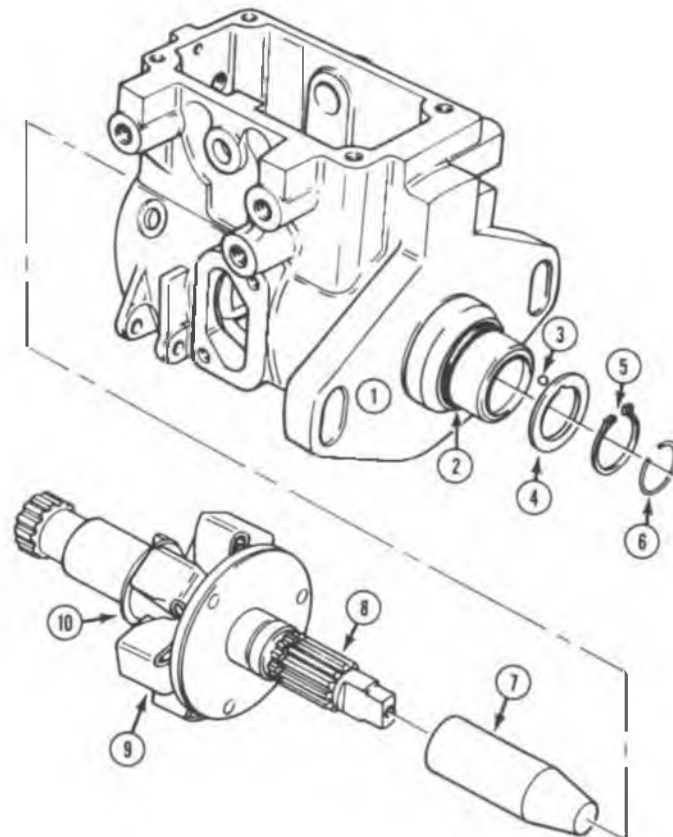

Fig. 3-18 CAV Pump Drive Shaft Assembly
18. Remove the drive shaft retaining circlip from the drive shaft, the thrust washer and steel ball (Fig. 3-18).
6. Install the steel ball into the recess in the shaft and align the notch in the thrust washer with the steel ball. Install the washer with the oil grooves facing towards the pump housing (Fig. 3-18).